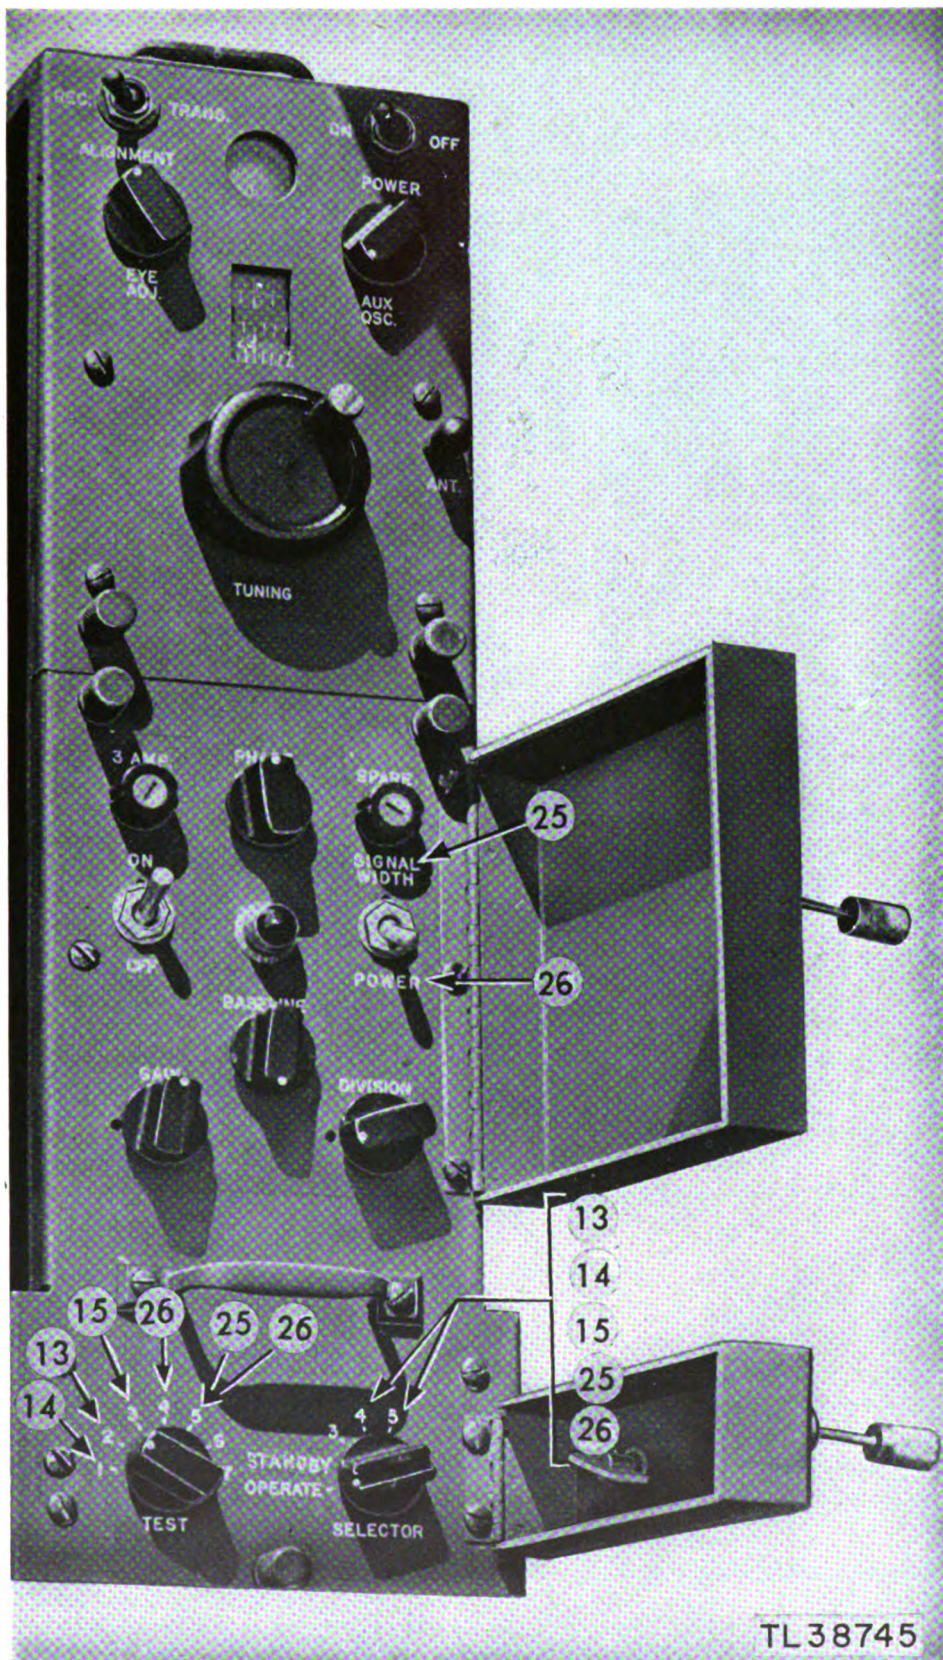

Figure 96. Control unit front panel showing Equipment Performance Log items for RC-148-B.
a. Turn the SELECTOR switch to either position 4 or 5, and the TEST switch to position 2 (figs. 96 and 97).